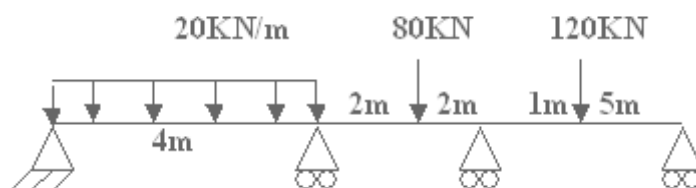

Figure 4
6. Analyse the Continuous beam shown in figure 4 using flexibility method and draw BMD. [16]